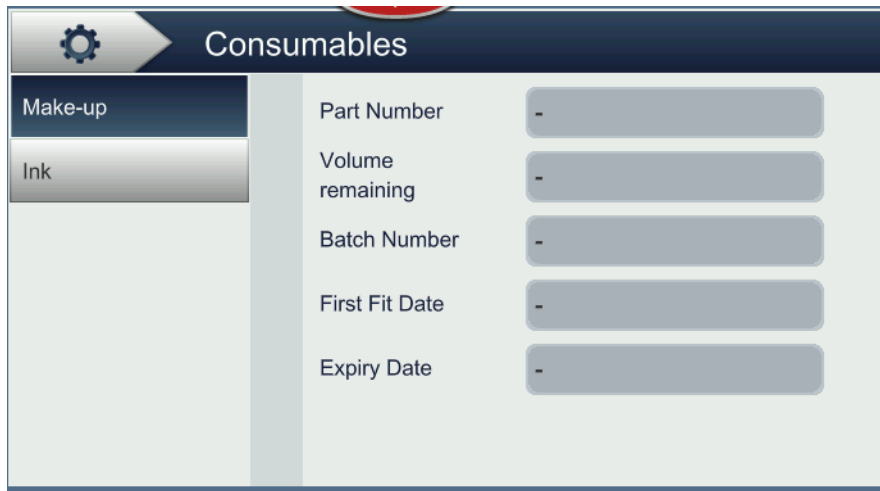

Figure 6-4: Consumables
2. Select the required consumable to view the details as shown in Figure 6-4.